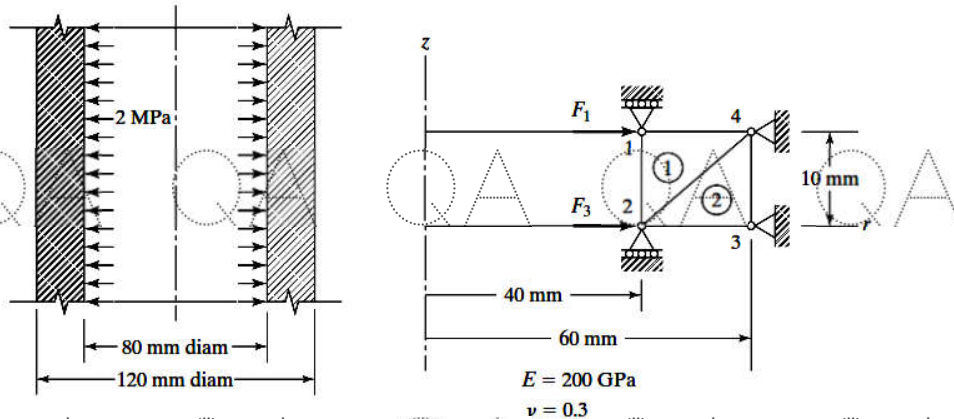

Figure 6
7. In Figure 6, a long cylinder of inside diameter 80 mm and outside diameter 120 mm snugly fits in a hole over its full length. The cylinder is then subjected to an internal pressure of 2 MPa. Using two elements on the 10 mm length shown, find the displacements at the inner radius. [10]